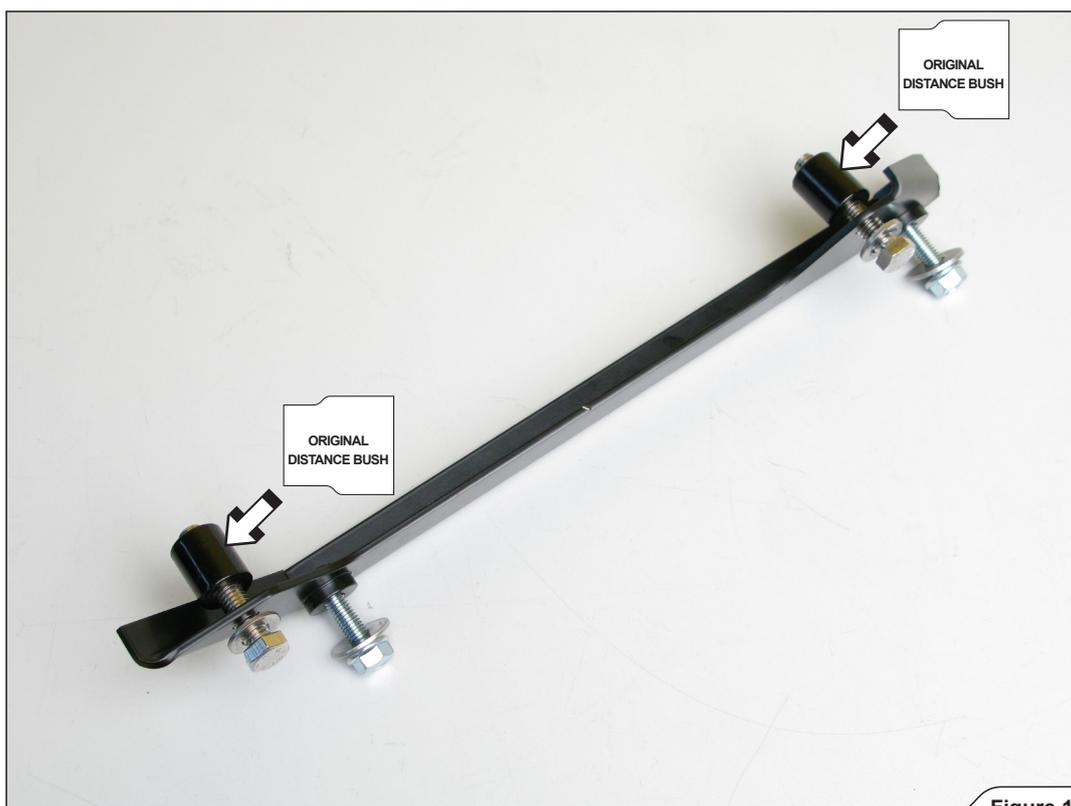

Figure 18
2. Assemble the Akrapovič brackets onto the motorcycle, using original distance bushes and bolts and washers from Akrapovič installation kit (Figure 18, 19).